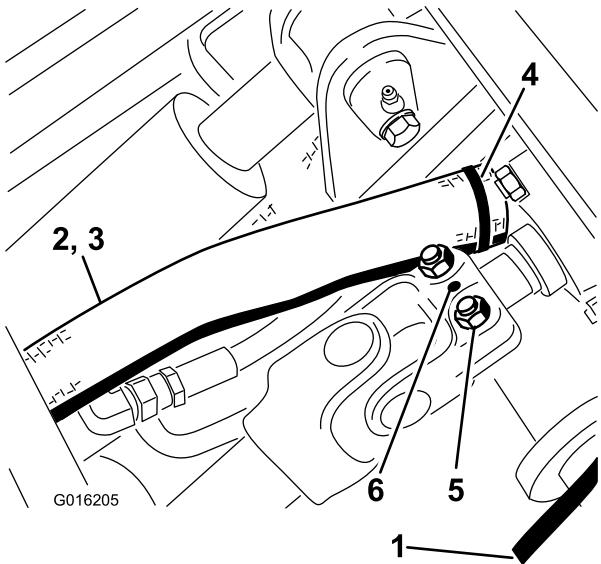

Figure 47
7. Connect the drive shaft to the gear box shaft in the winter frame and torque the bolts (5/16 inch) to 20 to 25 N·m (175-225 in-lb). Install the roll pin (Figure 47).